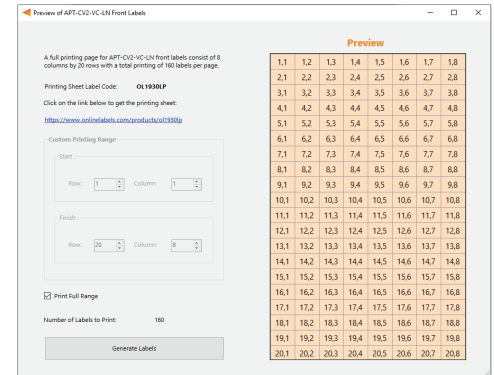

Figure 18: Label generation print preview window
- 4 Input the starting and finishing rows and columns that will fit on the back or front labels. The selected range is highlighted in blue (Figure 18).